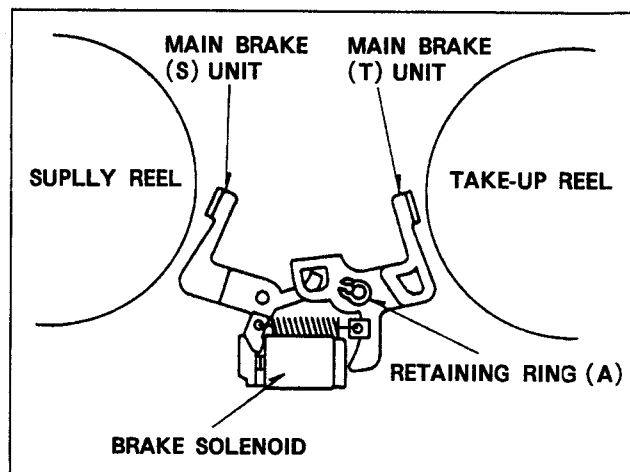

Figure M19
4. The new Main Brake (S),(T) Unit can be reinstalled by reversing the removal procedure.
- Note:** When assembling the DD Reel Motor Unit, slide the Main Rod to far left side by rotating a Center Gear (Figure M19).